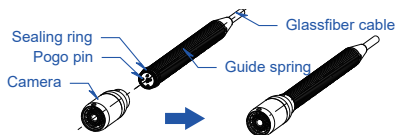

Figure 12. Install camera head
1. Install Camera Head (See Figure 12)